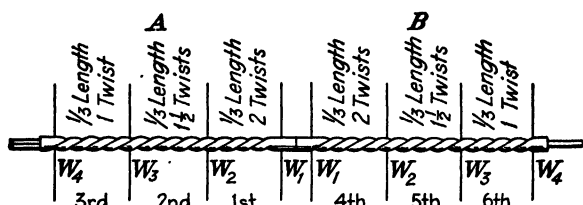

FIG. 14-14. Method of making double sleeve joint in steel-reinforced aluminum cable, sizes 4/0 to 1/0.
**Sleeve Joint for Aluminum Cable, Steel Reinforced.** The following method of making a sleeve joint for ACSR cable is generally used for sizes 4/0 to 1/0 cable. Two sleeves are employed, and each sleeve is given four and a half complete twists distributed as shown in Fig. 14-14. This requires three different settings of the twisting wrenches as follows: